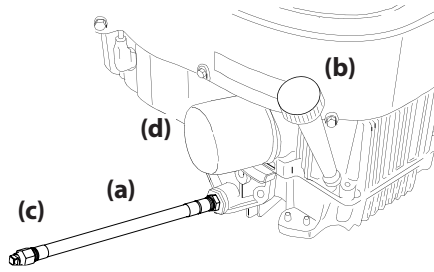

Figure 4-1
2. Locate the oil drain valve on the right side of the engine. See Figure 4-1.
4. While holding the free end of the oil drain hose (a) over the oil collection container, unscrew the square head hose plug (c) from the end of the hose (b). See Figure 4-1. Drain the engine oil into the collection container.